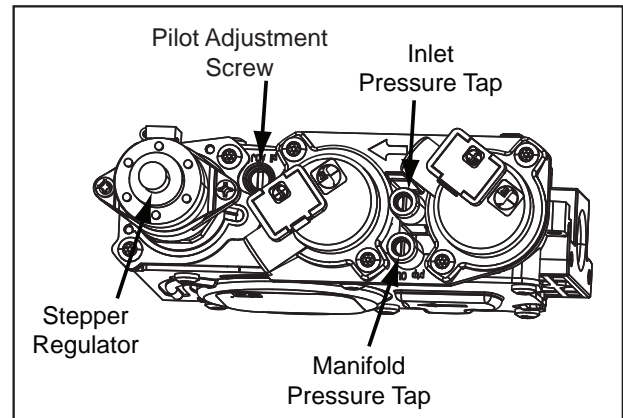

Figure 24: Gas Valve Diagram
- a) Remove the existing stepper motor using a T-20 screwdriver (see Figure 24).
10. Light the pilot and recheck for leaks in the aluminum pilot line. If a leak is evident, contact your ENVIRO dealer for a pilot line replacement. **WARNING: DO NOT ATTEMPT TO FIX THIS LINE, IT MUST BE REPLACED IF DAMAGED.** The pilot should properly cover the flame sensor. If adjustment is necessary, turn the adjustment screw in the valve (see Figure 24) clockwise to decrease and counter-clockwise to increase until the correct flame is achieved (see Figure 14).